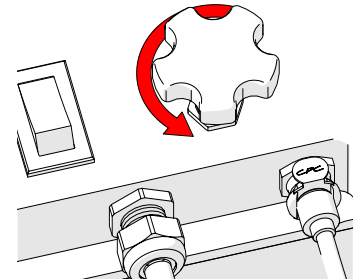

Fig. 4 - Control couplant with flow control valve
3. Open the flow control valve (*rotate counter-clockwise*) until desired flow is achieved (Fig. 4).